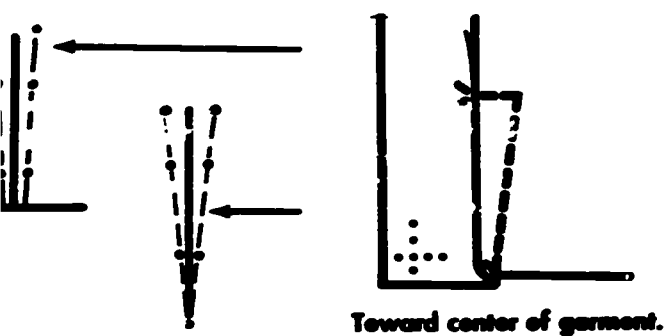

Fig. 10
**DART-TUCK** --(or released dart) an inverted dart with fullness released within the garment. (Fig. 10.)